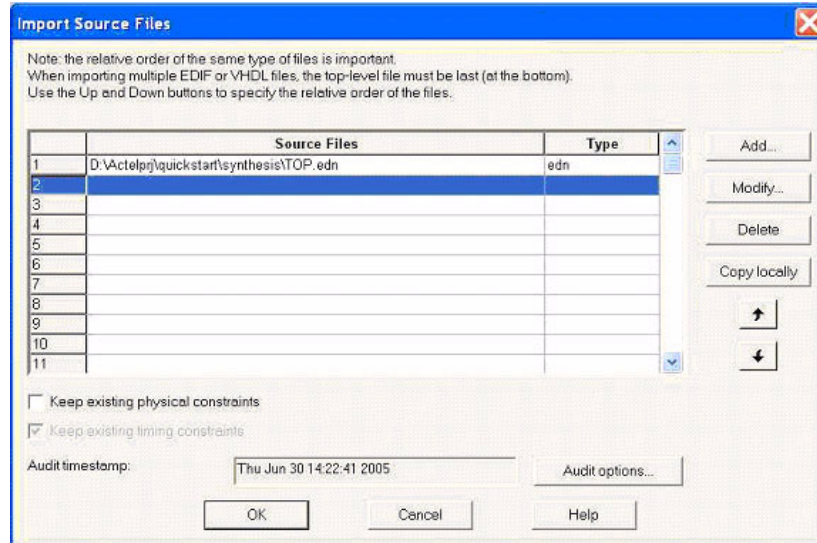

Figure 7-33. Import Designer Source Files
9. Another way to assign pin location is to import the Physical Design Constraint (PDC) file as a source file for Compilation. From the Designer menu, select **File > Import Source File** (Figure 7-33) .